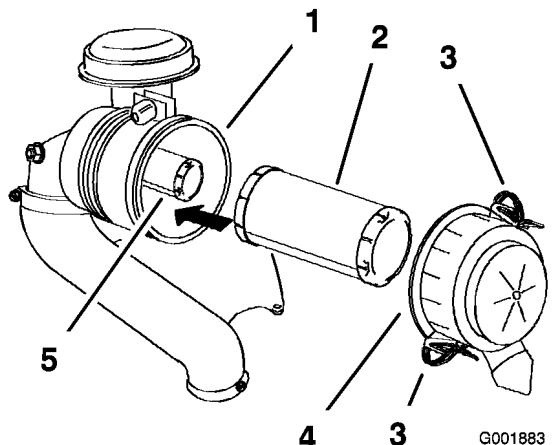

Figure 32
- Release the latches on the air cleaner and pull the air cleaner cover off the air cleaner body (Figure 32).
- Gently slide the primary filter out of the air cleaner body (Figure 32).
2. If the safety filter is being replaced, carefully slide it into the filter body (Figure 32).
3. Carefully slide the primary filter over the safety filter (Figure 32).
4. Install the air cleaner cover with the side indicated as **up** facing upward and secure the latches (Figure 32).